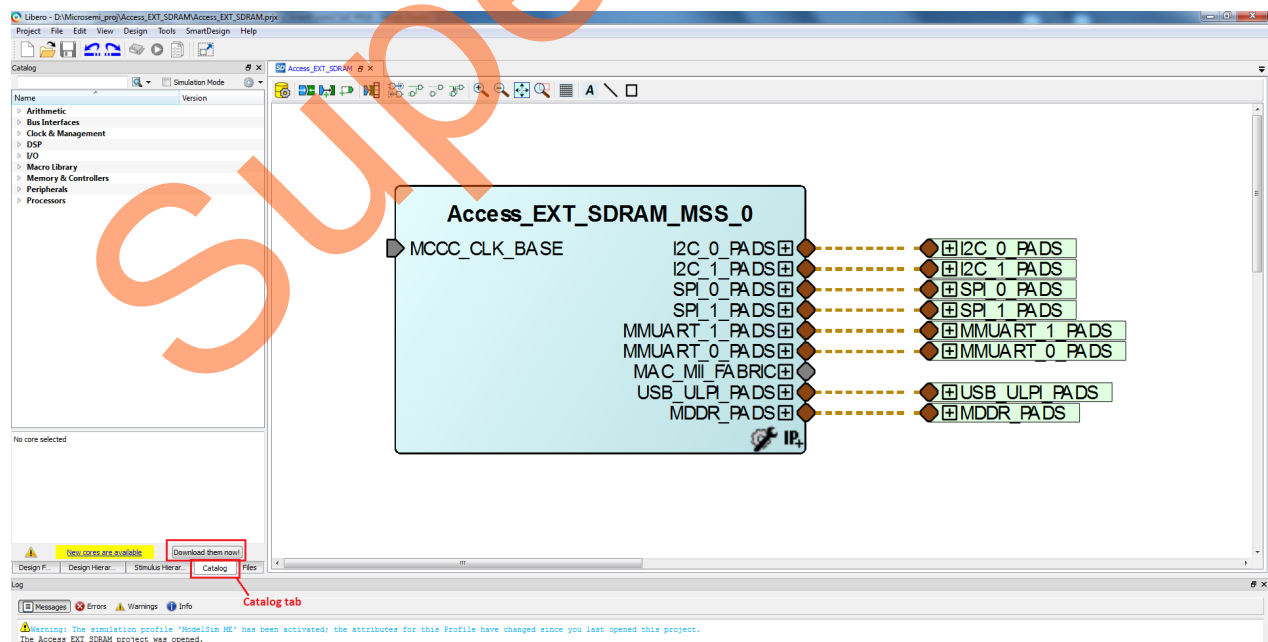

Figure 5. Libero Window on Completion of New Project Creation Wizard
1. The project is created and the Libero SoC window is displayed as shown in Figure 5. The **SmartDesign** window opens and a project **Access\_EXT\_SDRAM** is created with the instantiation of the MSS component.